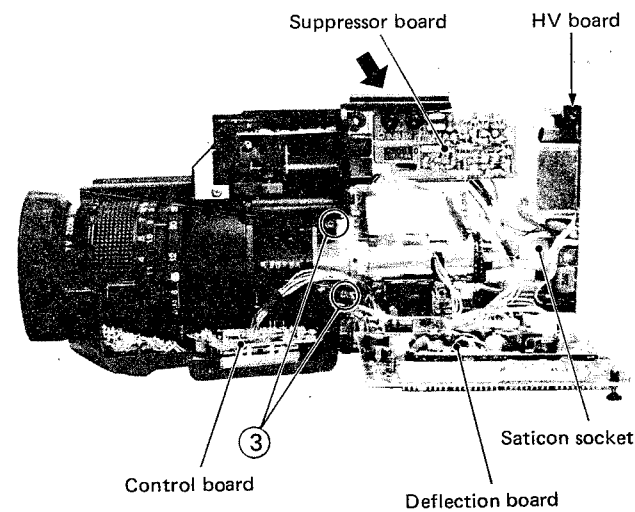

Fig. 1-11 Removal of pickup tube and deflection yoke
- Remove a screw on the bottom of the control panel cover, and then take off the cover. (See Fig. 1-11.)
- Remove two screws (3) of the yoke holder and the white wire soldered to the preamp shield cover on the opposite side, then disconnect the Saticon tube and remove the HV board. In this state, push out the pickup tube and deflection yoke in the direction of the arrow.